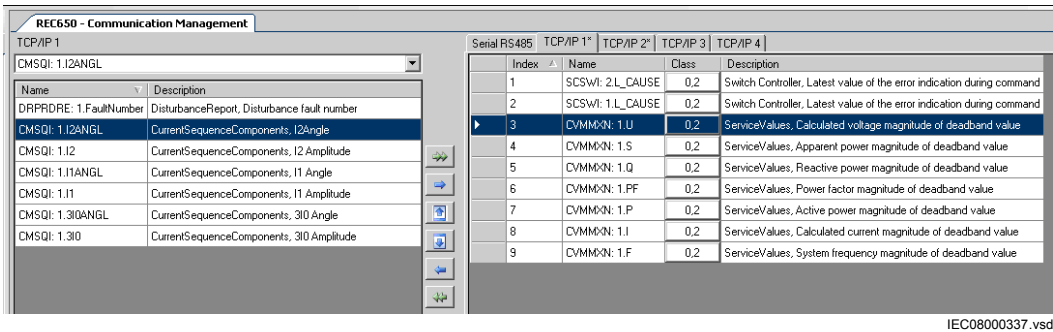

Figure 76: CMT: Container window design when selecting DNP3 protocol
3. Select the DNP3 protocol from the new window and click *OK*. Figure 76 presents the design of the two container windows, which open after the selection of DNP3.
- The left window has a drop down menu for signal selection and buttons for signal movement, see Figure 76.